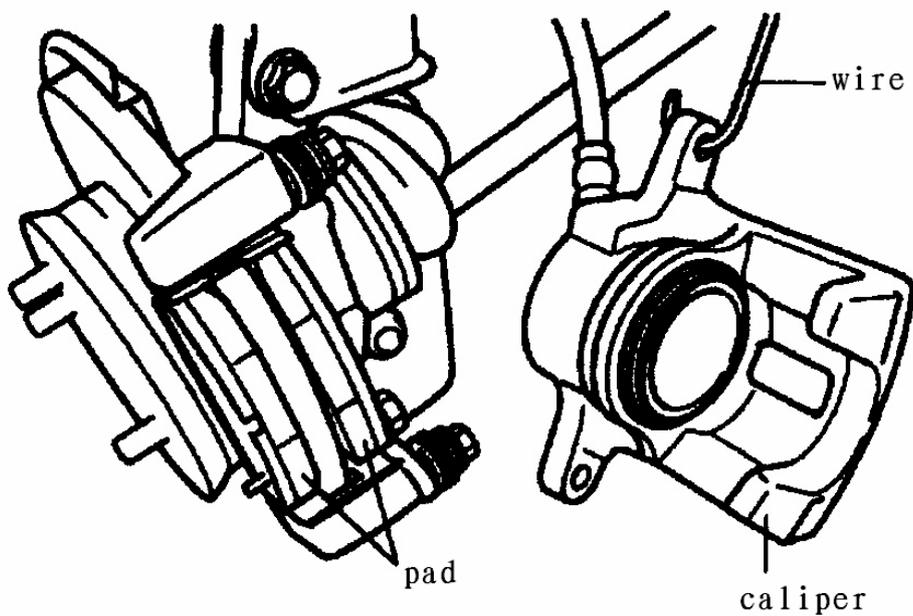

FIG.16-14
(4) Remove Caliper.(FIG.16-14)
(2) Remove caliper from brake disc and hang it with a wire. (FIG.16-14)